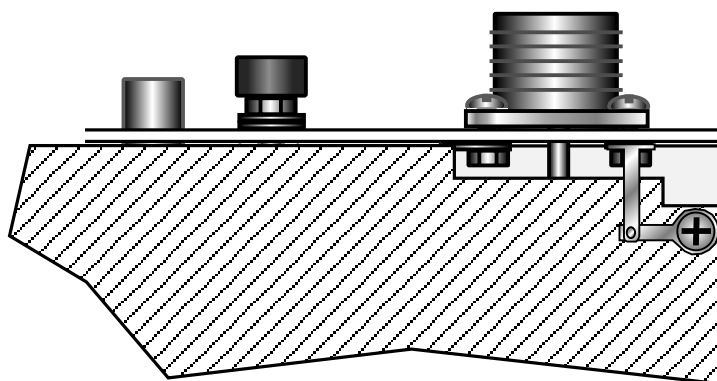

Figure 2
- ❑ The solder lugs will be used to form a ground strap between the shield and rear panel as shown in Figure 2. Attach one lug to the shield screw near the SO239 connector. The lug replaces the original lock washer.